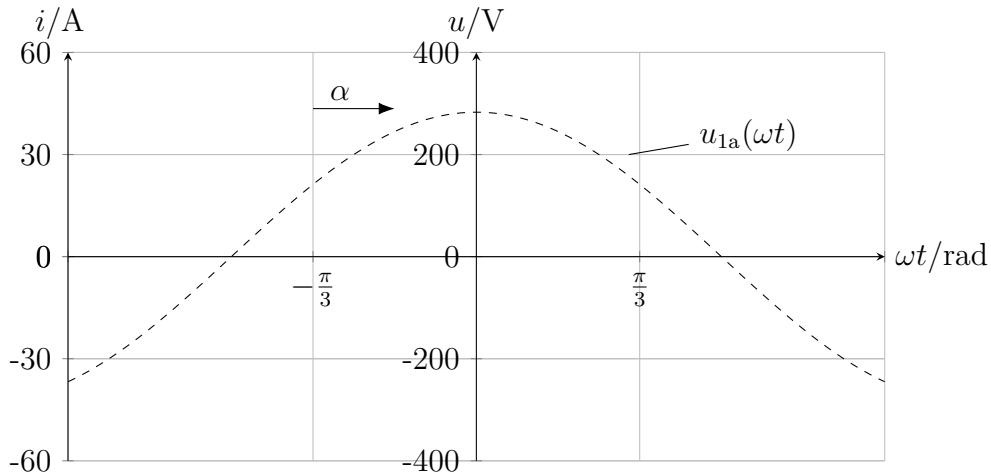

Fig. 6: Input current  $i_{1a}(\omega t)$  and  $u_{1a}(\omega t)$ .
3.4 Sketch the input current  $i_{1a}(\omega t)$  in Fig. 6, calculate the effective value of the fundamental component  $I_{1a}^{(1)}$  and the corresponding total harmonic distortion (THD). [4 Points]